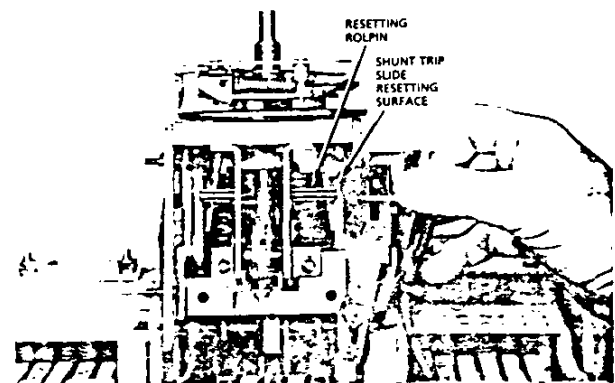

FIGURE 8
1. Block the breaker crossbar down at least 1" so that the mechanism resetting pin will be below the shunt trip slide resetting surface. Fig. 8.